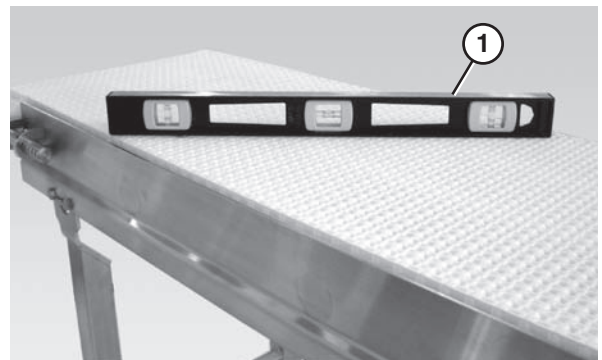

Figure 22
4. Use a level (Figure 22, item 1) to verify that both stand legs are the same height.